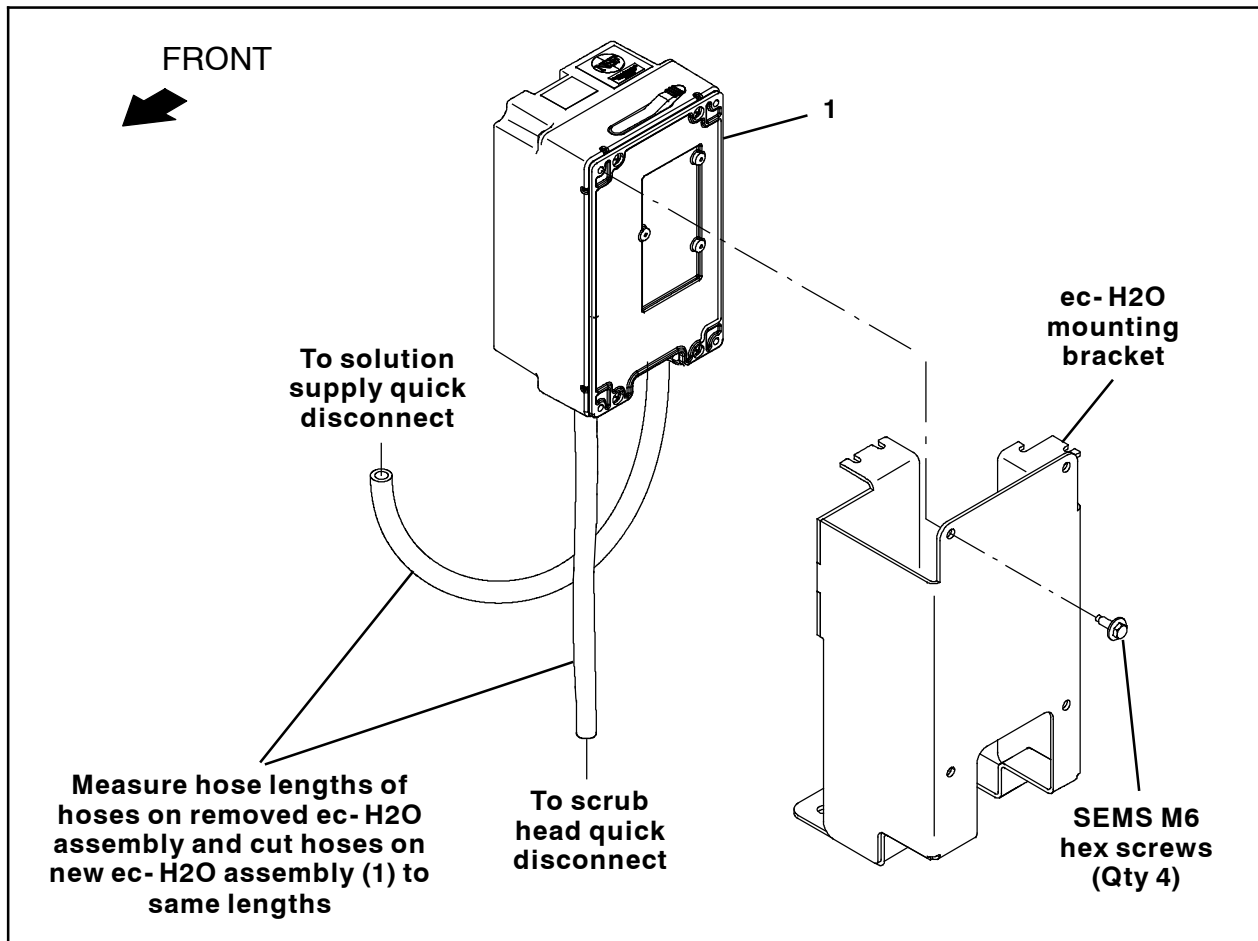

FIG. 1
5. Measure the lengths of both hoses on the ec- H2O module removed from the machine and cut the hoses on the new ec- H2O module (1) to the same lengths. (Fig. 1)
6. Install the new ec- H2O module (1) into the machine. Connect the hoses to the solution supply quick disconnect and the scrub head quick disconnect. (Fig. 1)
7. Connect the main wire harness to the new ec- H2O module (1).